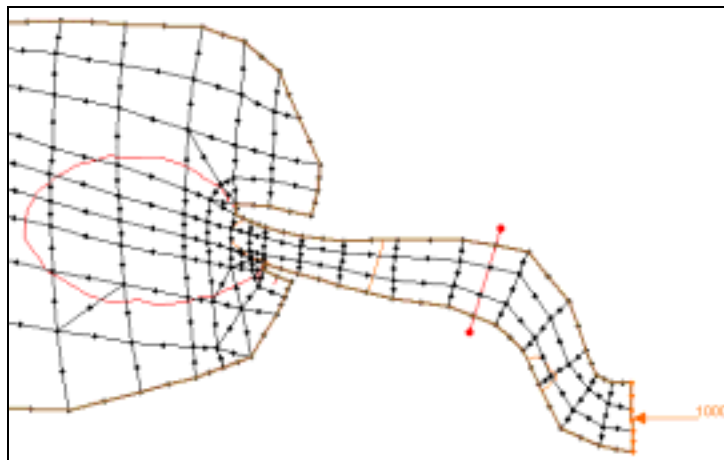

Figure 17-10 Observation arc across noyo1.spr mesh
3. Create an observation arc across the mesh as shown in Figure 17-10.